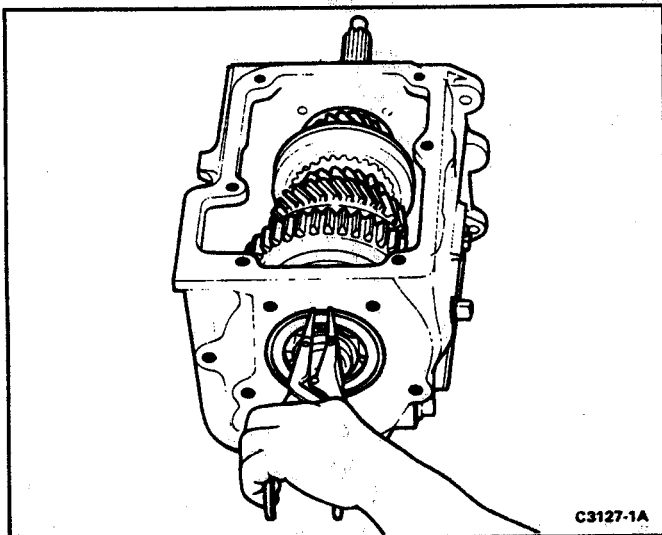

FIG. 6 Removing Output Shaft Bearing Snap Ring
8. Remove the output shaft bearing snap ring from the output shaft and the snap ring from the bearing, (Fig. 6). Remove bearing spacer washer.